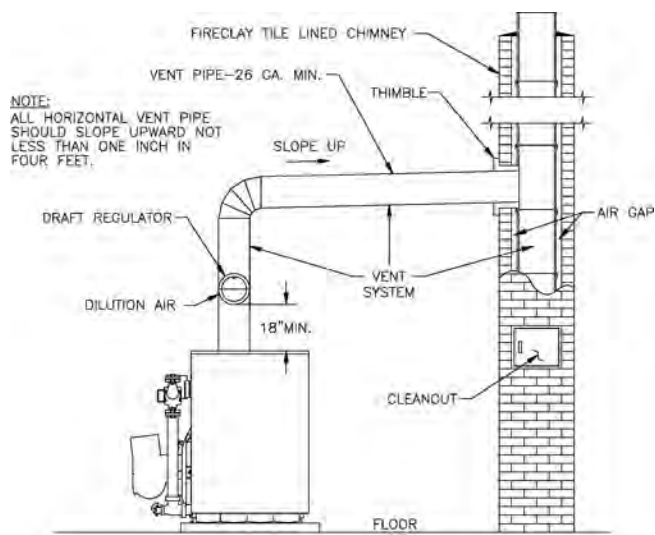

Figure 13 Recommended Smokepipe Arrangement and Chimney Requirements
- J. INSTALL SMOKEPIPE** — The CL Series boiler should be vented into a fireclay tile-lined masonry chimney or chimney constructed from type L vent or a factory built chimney that complies with the type HT requirements of UL103. The chimney and vent pipe shall have a sufficient draft at all times, to assure safe proper operation of the boiler. See Figure 13 for recommended installation.